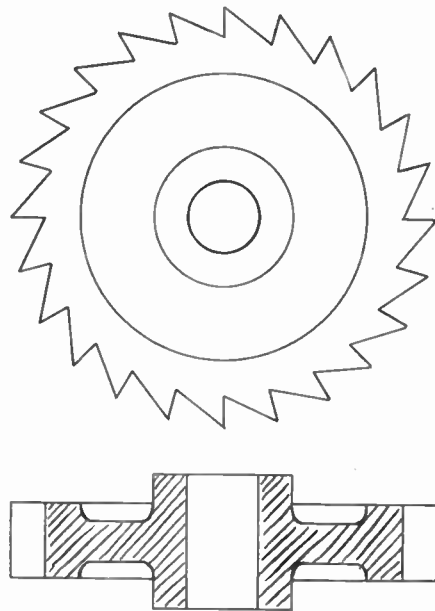

Fig. 2
**RATCHETS.** — Figure 2 represents a ratchet, which, in combination with a pawl, allows revolution in one direction only.